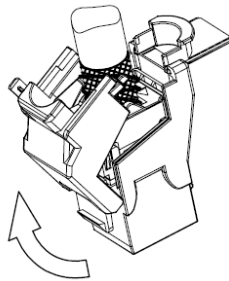

Fig. 12
- 2) Close the jaw until it clicks into place (Fig. 12)